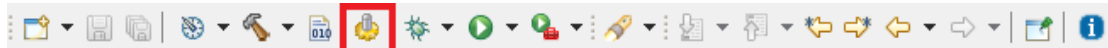

Figure 33: STM32CubeIDE menu icons - Code Generation
- Before building the project the first time some hardware specific code has to be generated. Open the STM32CubeMX configuration window with a double-click on the *.ioc file in STM32CubeIDE's project explorer. Then the code can be generated with **Project** → **Generate Code** or by clicking on the *Code Generation* icon as seen in Figure 33.